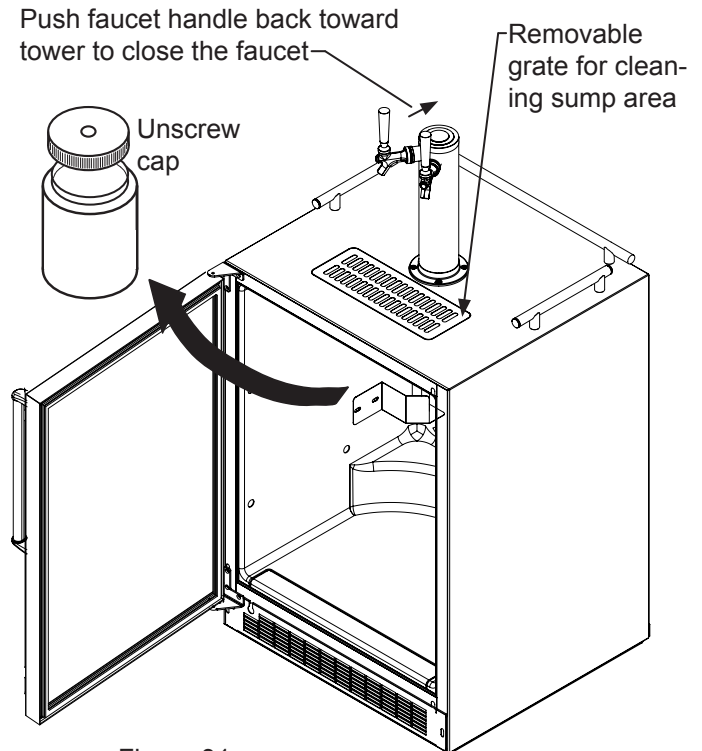
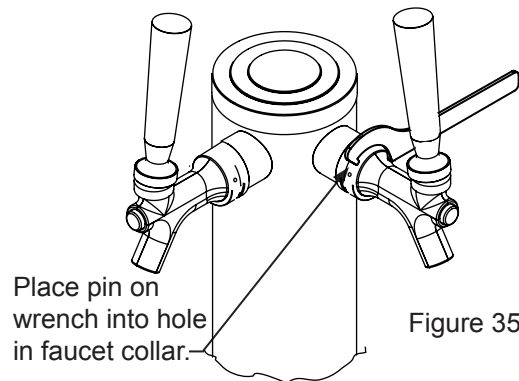

Figure 31
Figure 35
2. Be sure the faucet handle is closed on the tower (see Figure 31).
On a **free standing kegerator** remove the grate from in front of the tower, clean with soap and water and dry before reinstalling. Clean the sump area with soapy water and dry. (See figure 31).
Turn off the gas supply with the shutoff valve under the regulator (see Figure 31) and open the faucet to relieve the pressure. To remove the faucet from the tower use the spanner wrench provided. Place the pin on the wrench into the hole on the faucet collar and turn clockwise \curvearrowright to remove the faucet. (See Figure 35).